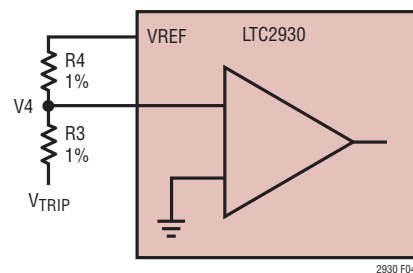

Figure 4. Setting the Negative Adjustable Trip Point
* See Figure 4.
In the negative adjustable mode, the reference level on the V4 comparator is connected to ground (Figure 4). The tap point on an external resistive divider, connected between the negative voltage being sensed and the VREF pin, is